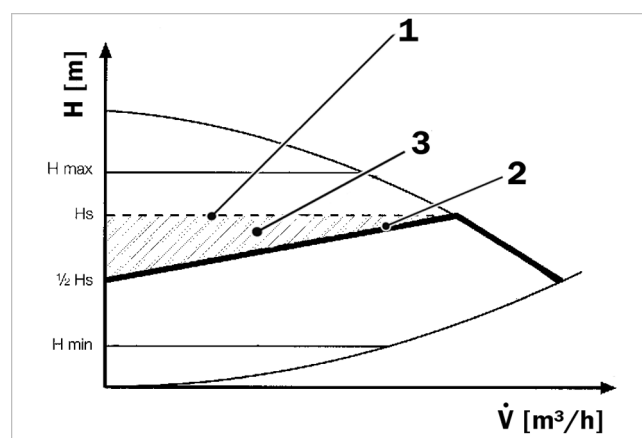

Fig. 46: Wilo-Stratos PICO control characteristics
• Differential pressure variable (Δp variable) (2)
The electronics convert the differential pressure that is to be maintained by the pump linearly along the permitted pump output range between $\frac{1}{2}$ H_s and H_s (see → Fig. 46 (2)). The target value for the differential pressure (H_s) changes according to the pump output: if the flow rate is lowered, the differential pressure (delivery height) is also reduced. This control type is perfectly suited for heating systems with radiators, as the noise of the flowing water is reduced at the thermostatic valves.